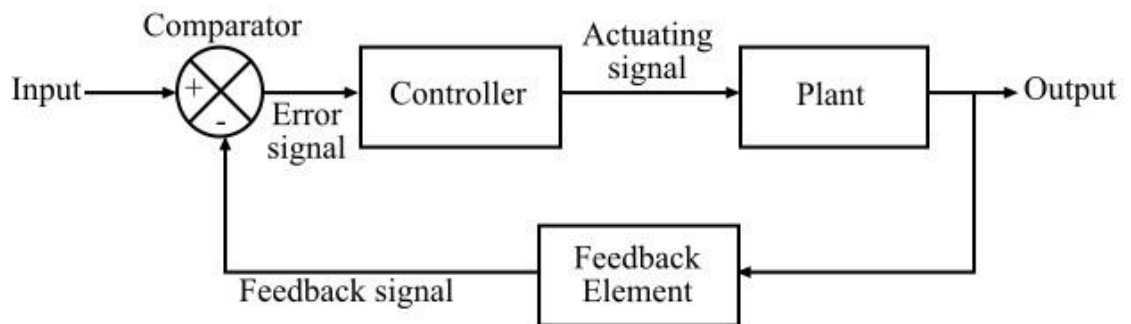

Figure 2 - Closed Loop Control System
2. Refer the circuit shown in Fig. 2. Find the transmission parameters.